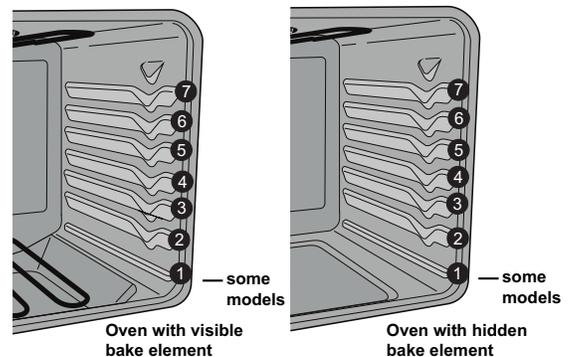

Figure 13: Rack positions for visible bake and hidden bake elements
- For best results when baking cakes using two oven racks, place racks in positions 3 and 5 (See Figure 13).